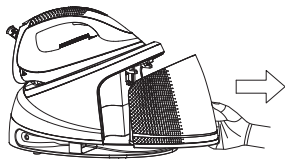
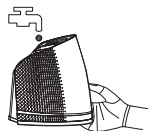
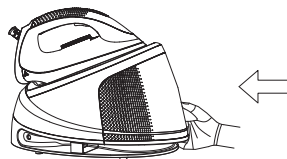

Рис. 1
Рис. 2
Рис. 3
- each time you press the steam release button (2), the pump will activate, producing a characteristic sound.
- as soon as the water in the tank (12) is depleted the pump sound will be significantly louder. Switch the unit off, unplug it from the mains socket, remove the water tank (12), fill the tank (12) with water, reinstall the tank (12) (figs. 1, 2, 3), switch the unit on, and continue operation;
- make sure that the steam pipe (4) does not bend or twist during use.
- During breaks and after finishing, place the iron on the steam station body (10) in the iron docking area (9). Alternatively, place the iron on its base (5) on a stable surface.
2. Remove the water tank (12) from the steam station (fig. 1), fill it with water (at least 300 ml) through the filling hole (13) (fig. 2), then reinstall the tank (12) (fig. 3).
- Возьмитесь за резервуар (12) и выньте его из корпуса паровой станции (рис. 1).
- Наполните резервуар (12) водой через заливочное отверстие (13) (рис. 2).
- не наливайте воду в резервуар (12) выше отметки «MAX»;
- Установите резервуар (12) на место (рис. 3).